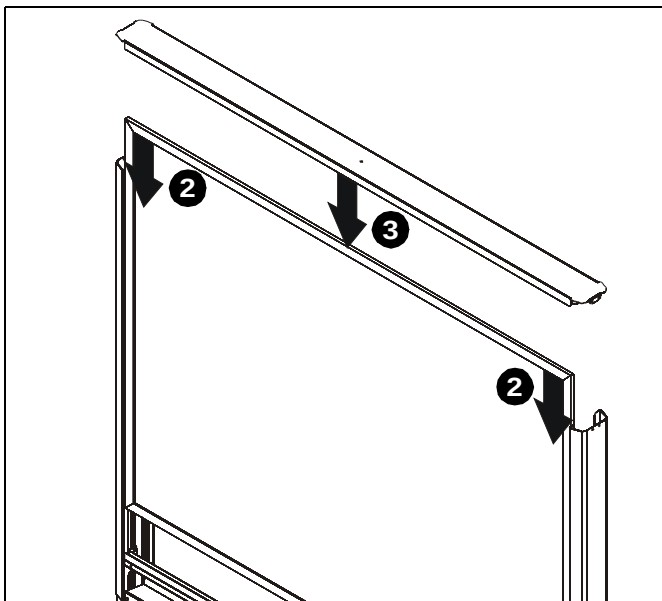

Figure 8
2. Carefully slide IDEA™ screen into cart, inserting it into the grooves at the back of the column extenders (J and K) and making sure it is fully seated in the top groove of the screen tray and cross assembly (D). (See Figure 8)
3. While holding the screen in place, set inner and outer top frames (E and F) on top of screen. (See Figure 8)